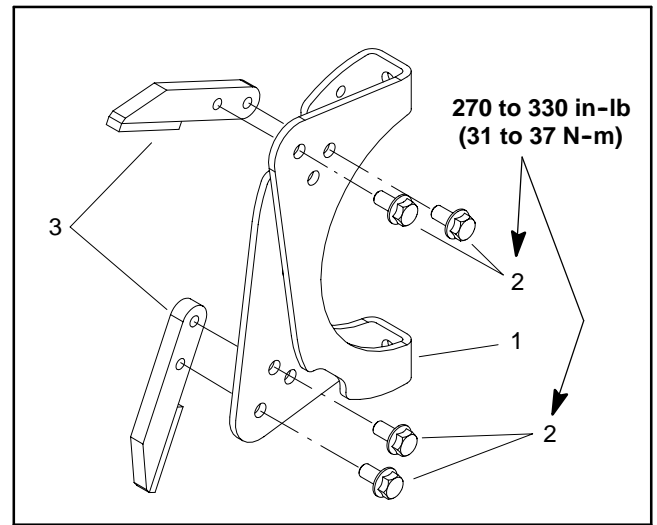
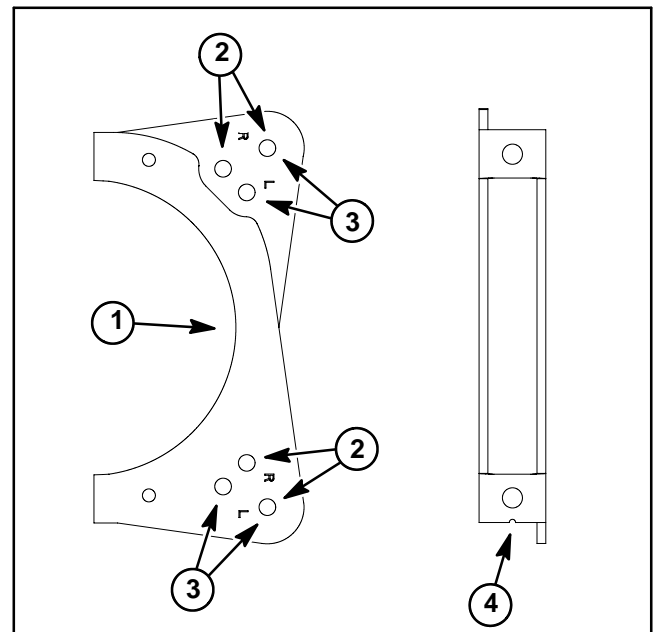

Figure 17
Figure 18
NOTE: The RH and LH blade assembly use the same blade but differ in which holes are used to mount the chopper tip to the blade (Fig. 18). Blades that have the chopper tips mounted toward the right side of the machine are RH assemblies. Blades that have the chopper tips mounted toward the left side of the machine are LH assemblies (shown in Fig. 17). Before removing chopper tip from blade, note which blade holes are used for proper attachment of chopper tip.
2. To remove chopper tip(s) from blade, use a ratcheting box wrench to remove two (2) screws that secure tip to blade.
3. To remove chopper blades from chopper axle, remove two (2) cap screws and lock nuts that secure right and left blade assemblies to axle. Remove blade assemblies. Note that notch on both blades align (Fig. 18).
2. Secure chopper tip(s) to correct holes of chopper blade with two (2) screws. Torque screws from **270 to 330 in-lb (31 to 37 N-m)**.
3. If blades were removed from axle, secure RH and LH chopper blades to chopper axle with two (2) cap screws and lock nuts. Make sure that notch on both blades align (Fig. 18).